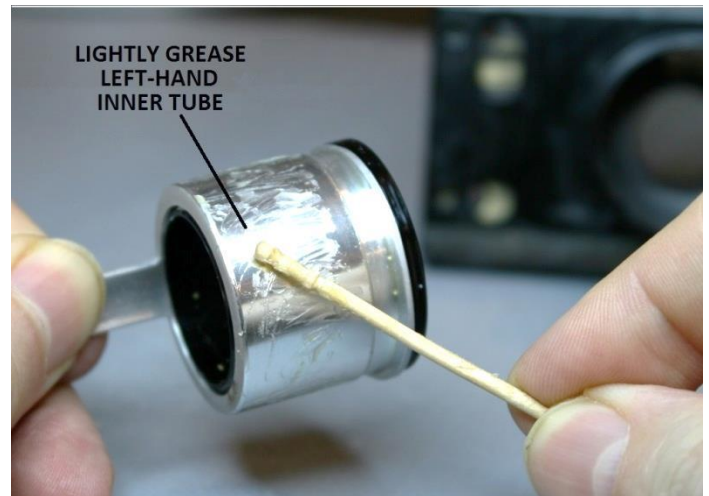

Figure 84 – Lightly grease the polished inner tube (left)
Apply a light coating of a suitable grease (item 5 of Appendix 1) to the polished outer surface of the left-hand polished inner tube (see Figure 84).